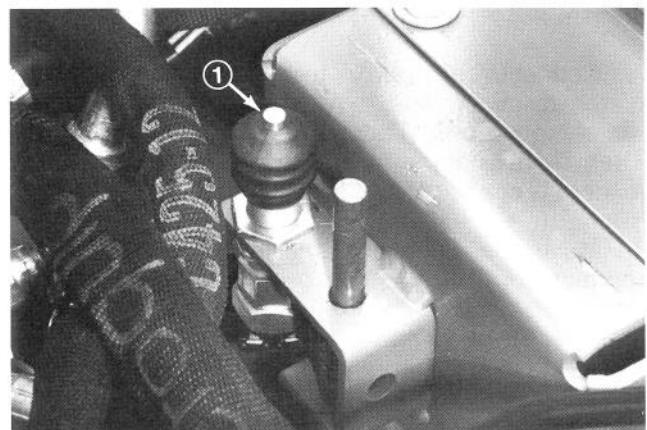

Figure 43
4. Screw new switch through mounting bracket until switch button is about 1/16 inch (1.6 mm) shorter than the top of the seat return spring pin. Install the boot into the mount grooves (Fig. 43).